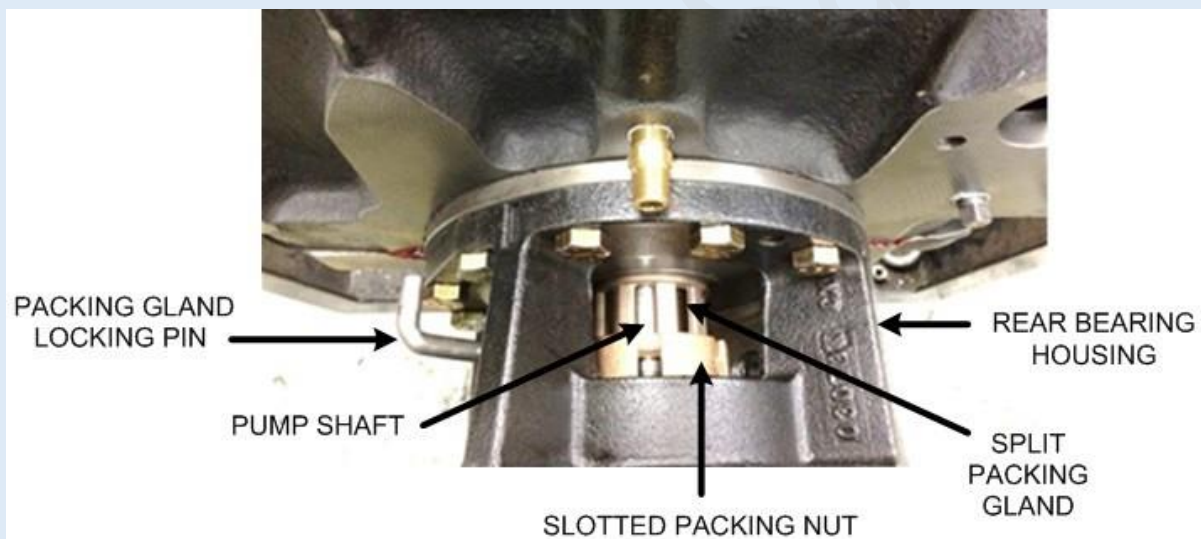

Figure 39. Packing Gland Adjustment
- A. Clean entire rear bearing housing area, including pump shaft and split packing gland. See Figure 39.
- A. Release packing gland locking pin. See Figure 39.
- B. Tighten slotted packing nut one slot. See Figure 39.
- B. Release packing gland locking pin. See Figure 39.
- C. Loosen slotted packing nut one slot. See Figure 39.